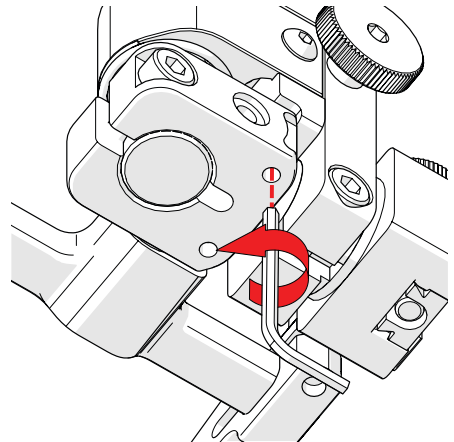

Fig. 73 - Lower 90° stop post
7. Locate the recessed M3 screw (stop post) on the bottom of the probe holder. Unscrew the stop post using a 1.5 mm hex wrench until it has cleared all obstructions. Do not remove stop post (Fig. 73).